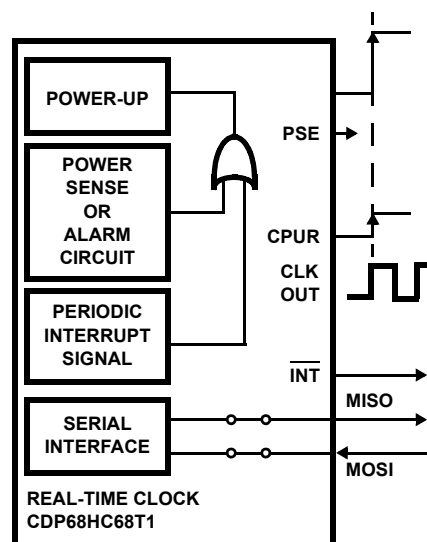

FIGURE 5. POWER-UP FUNCTIONAL DIAGRAM (INITIATED BY INTERRUPT SIGNAL)
**Power-Up** (See Figures 5 and 6)
1. The first condition (see Figure 5) requires an interrupt. The interrupt can be generated by the alarm circuit, the programmable periodic interrupt signal, or the power sense circuit.